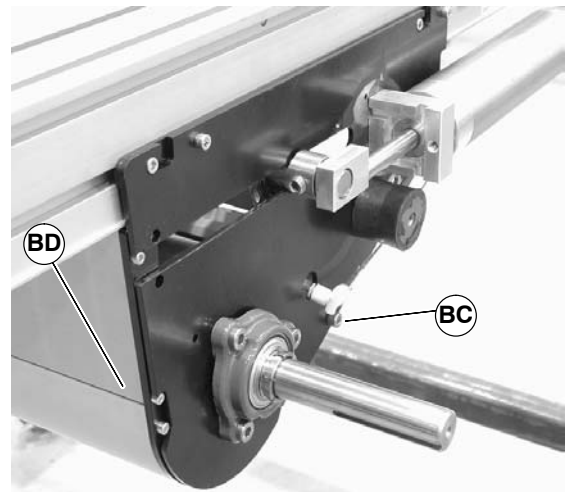
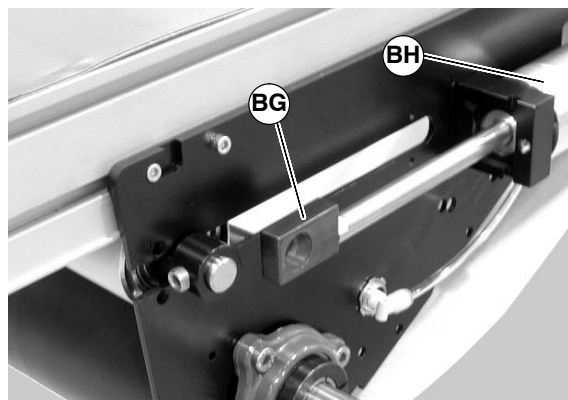

Figure 81
Figure 83
3. Temporarily support the tensioning roller guard (BD of figure 81). Remove screws (BC) on both sides of center drive and remove tensioning roller guard (BD of Figure 81 and 82).
5. Push shaft (BF of Figure 81) through block, slide block (BG of Figure 83) towards air cylinder (BH).